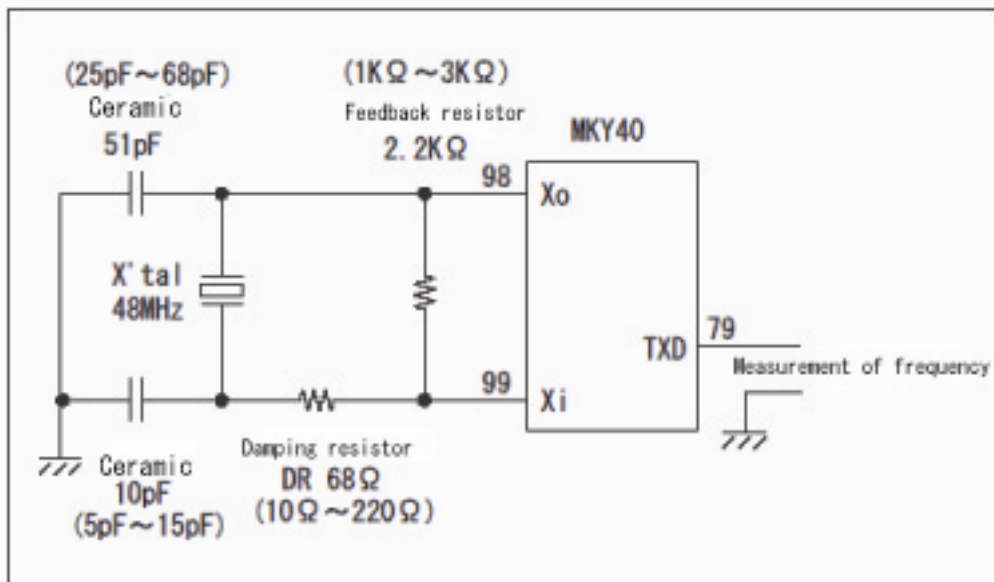

Figure 3
overtone type) crystal oscillator, oscillation becomes 16MHz. Described below and in Figure 3 below is the HC49U type 48MHz (three-time overtone type) crystal oscillator of several companies (such as Kinseki, Toyocom, Showa Crystal) in which we established stable constants when we connected it to cause oscillation.
1. The characteristics of the oscillator depend on the type and maker of the oscillator, and so constants stated in Figure 3 above do not provide absolute assurance. When using the maker-specific crystal oscillator for a mass-produced product, please contact the crystal oscillator maker and then determine the peripheral part constant compatible with the characteristic value specific to the crystal oscillation part.